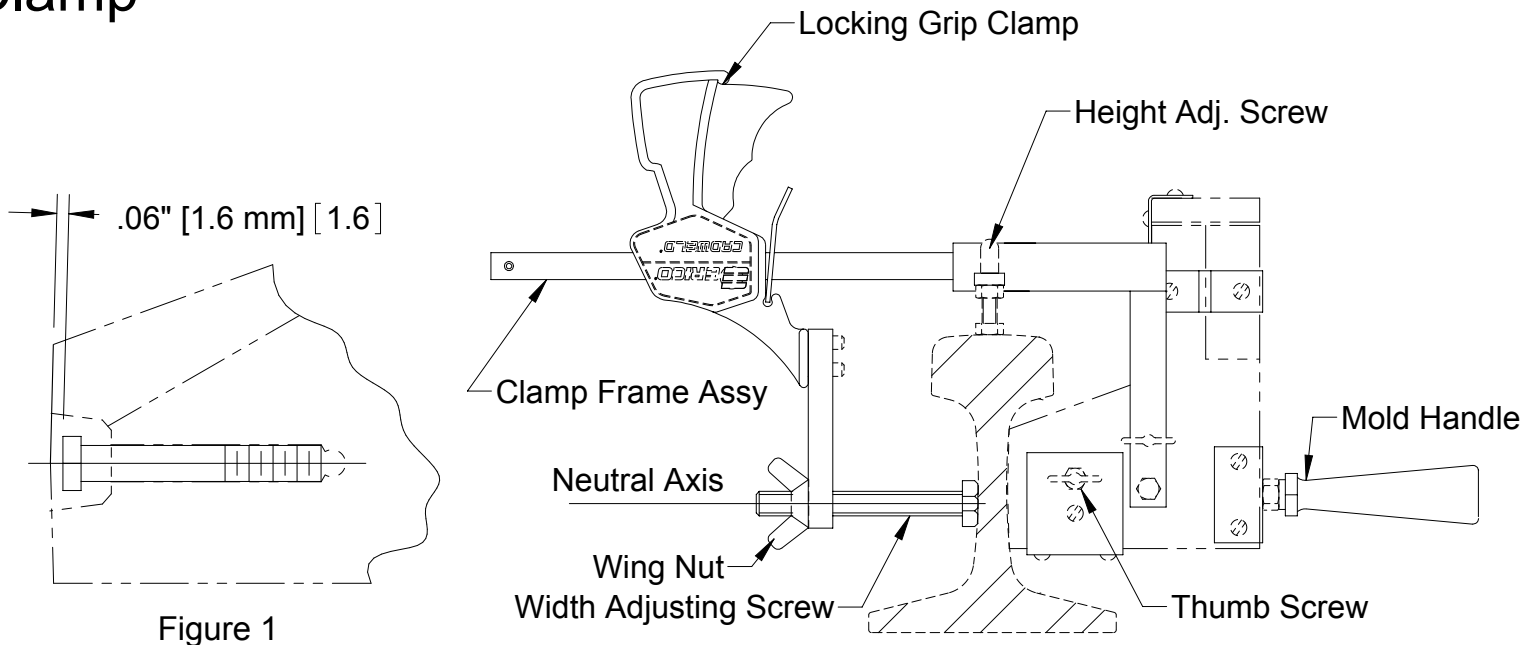

Figure 1
1. Insert stud into mold (As shown in Figure 1). Gap will be set when stud is fully inserted in mold (Correct gap also indicated on mold tag).